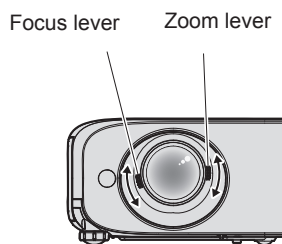

Fig. 1
2) Adjust the zoom and the focus. (Fig. 1)